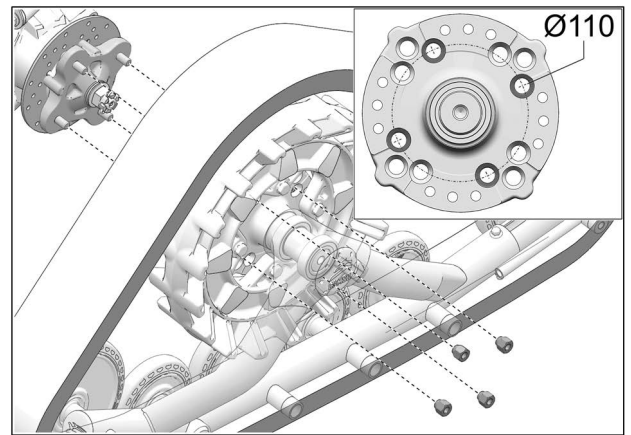

Fig. 13
11. Secure undercarriage to rear hub using vehicle's own lug nuts. Use bolt circle $\varnothing 110$ mm. See Fig. 13